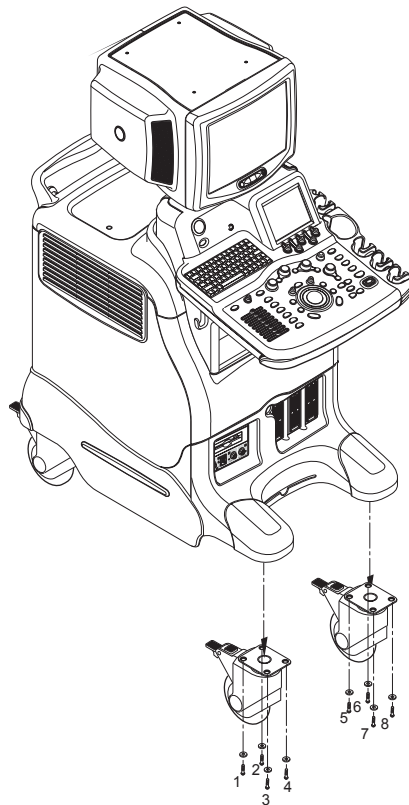

Figure 8-84 Removing the Front Caster
- 1.) Unscrew eight (8) hexagonal bolts (1-8).
- 2.) Remove the Front Caster. Refer to Figure 8-84 on page 8-63 .